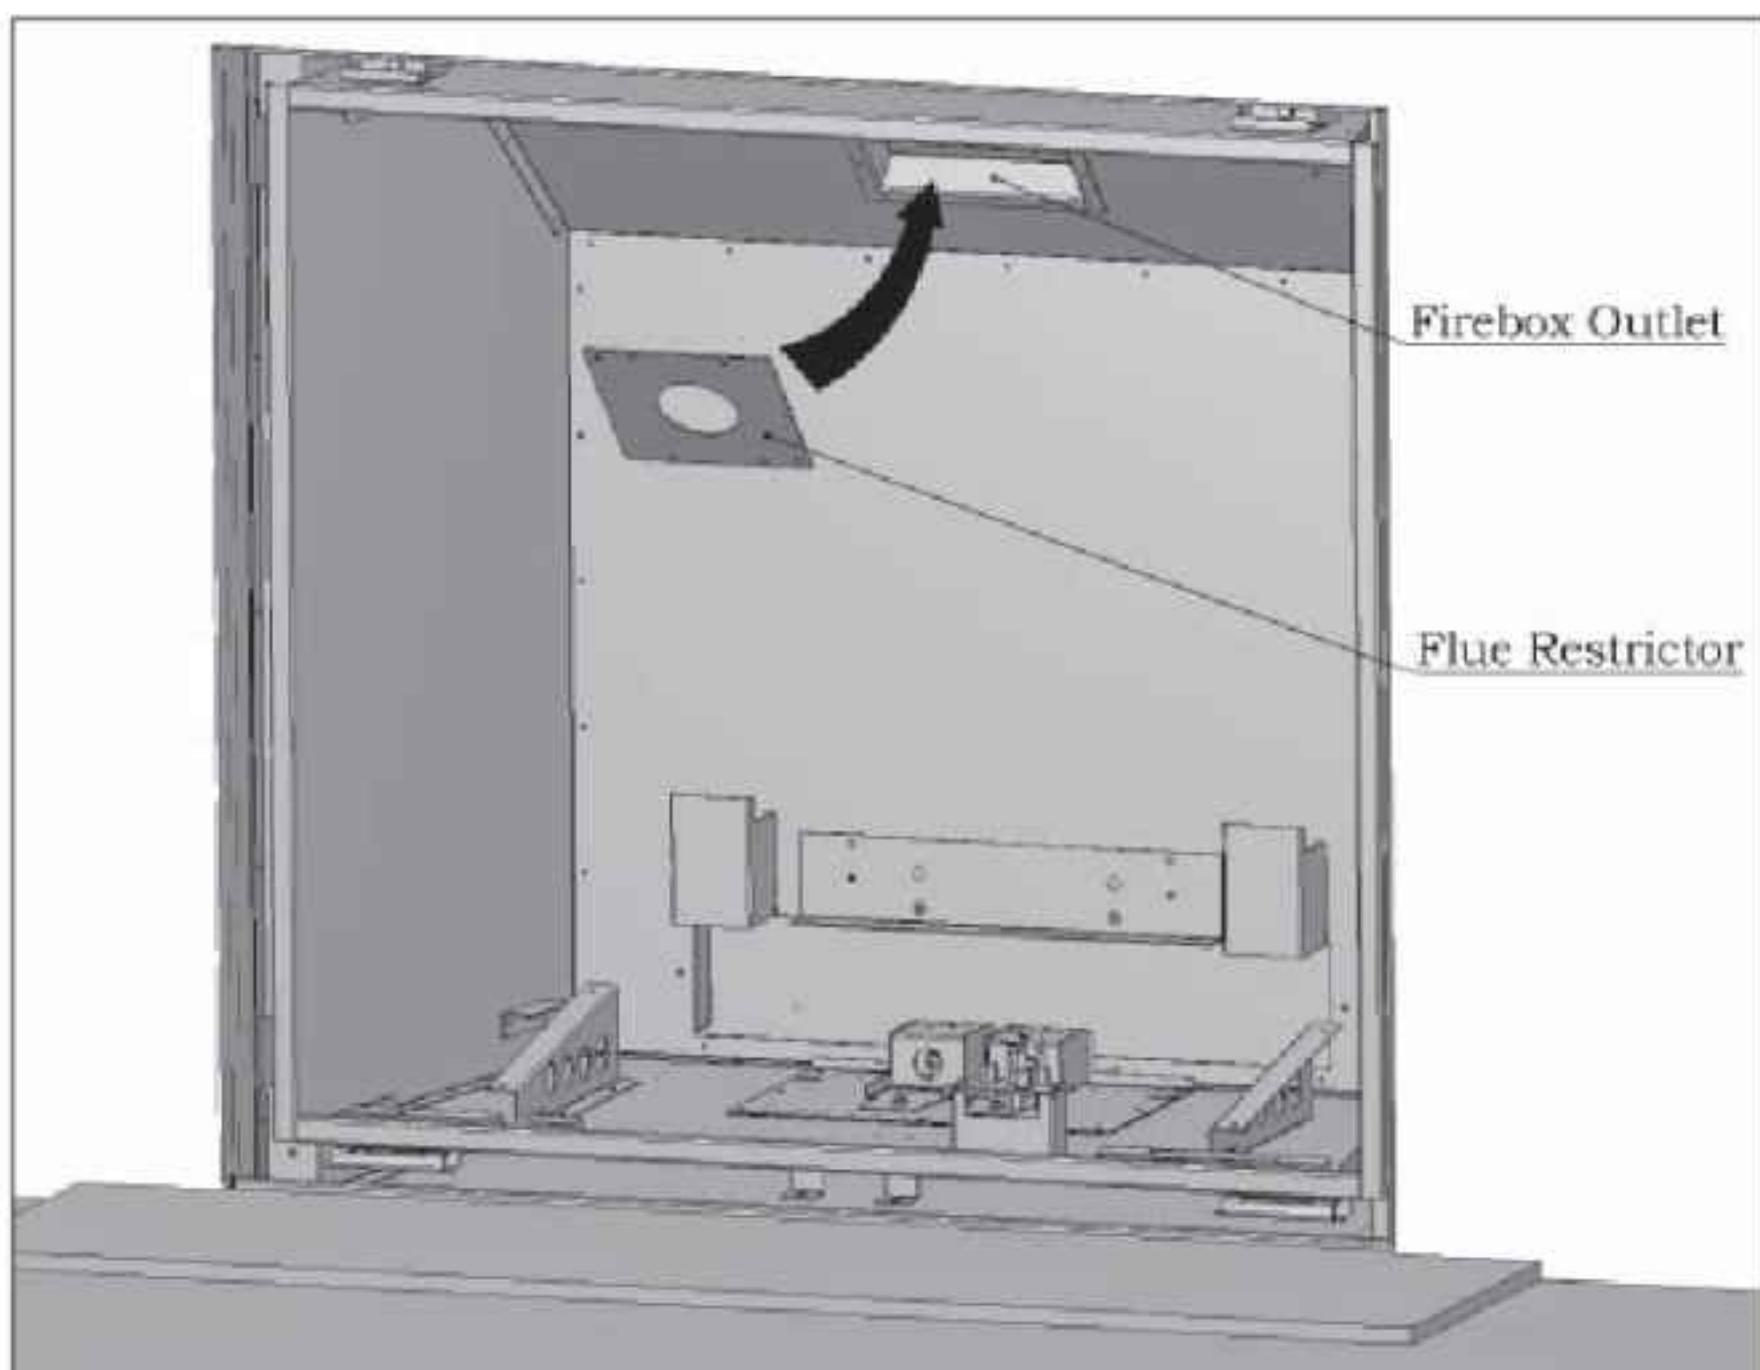

Figure 25: Installation of Flue Restrictor.
- 5) Using the two (2) 1/4" T-20 screws provided with the restrictor, fasten the Restrictor into the Flue Outlet as shown in Figures 25 & 26. Make sure the diagonal holes line up with the diagonal holes located in the Flue Outlet Box. Use a powered driver to drive the screw in. Be careful not to over-torque the screw and strip the threads.